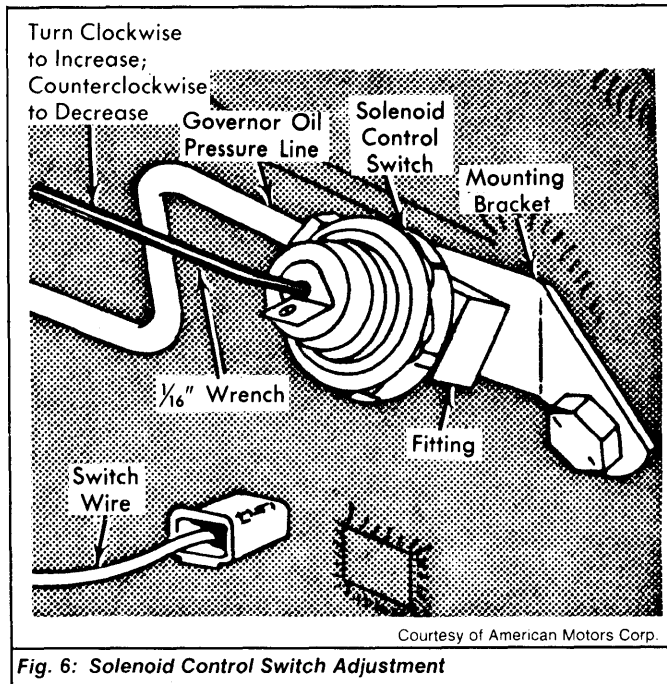

Fig. 6: Solenoid Control Switch Adjustment
4) Adjust switch if operation is outside operating range. Turn 1/16" Allen screw in switch terminal to change setting (clockwise to increase opening speed; counterclockwise to decrease). See Fig. 6.